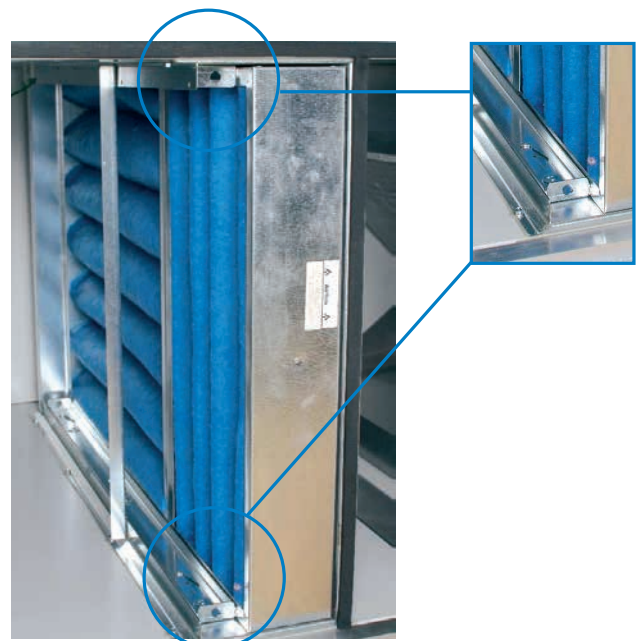

Figure 23
- Panel filters are usually installed in the factory. If not, install the panel filters through the door opening. Then push the profile into the locking position (Figure 23).
- From the clean side, mount the bag filter through the door opening. Then push the profile into the locking position – the same procedure is to be applied as for panel filters (Figure 23).